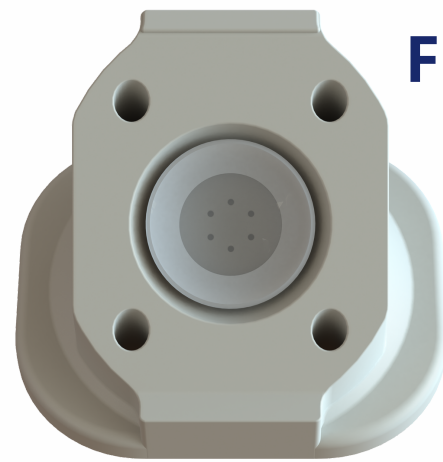

Fig. 1
3. Once stained, POSITION the cornea on the base such that the cornea is centered on the six drainage holes, **Fig. 1**. REMOVE any air bubbles under the cornea with a surgical spear.